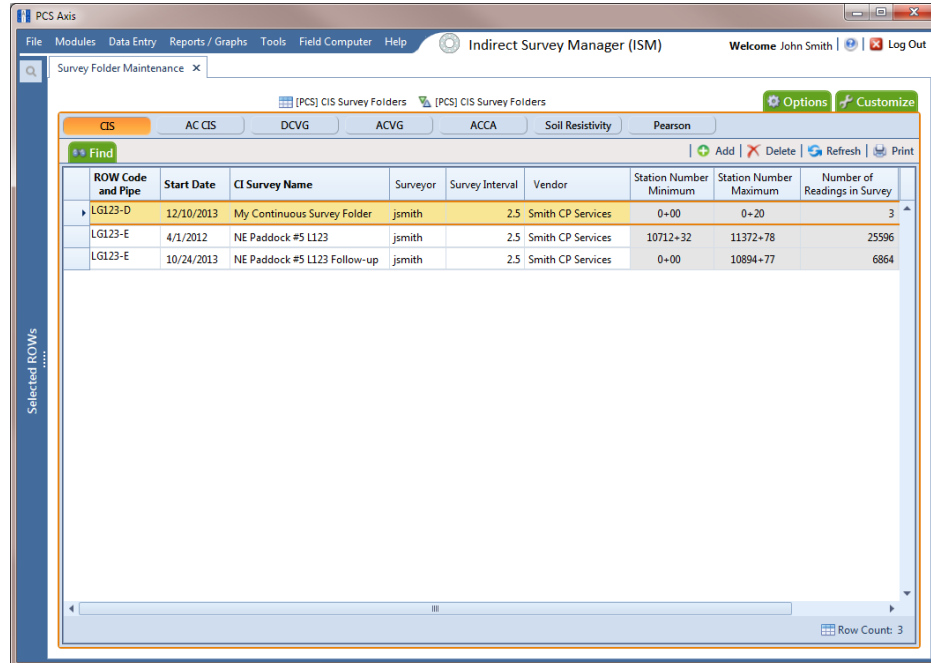

Figure 6-8. Survey Folder Maintenance
- 5 Select a pipeline segment in the grid that includes the continuous survey folder you want to delete. For example, the row of records for pipeline segment *LG123-D* are selected in the following figure (Figure 6-8, page 192).
- 4 Click a button labeled with the type of continuous survey that you want to add a layout theme. For example, click the **CIS** button  to add a layout theme for a continuous survey associated with close interval survey readings (Figure 6-8, page 192).
- 4 Click a button labeled with the type of continuous survey that you want to add a sorting theme. For example, click the **CIS** button  to add a sorting theme for a continuous survey associated with close interval survey readings (Figure 6-8, page 192).